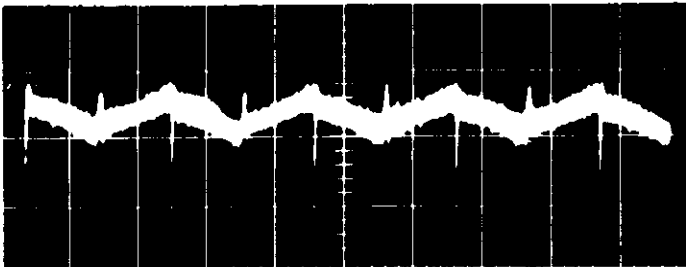

FIGURE 5. Correct Waveform at Grid of Tube V102 (Pin 4). Vertical sensitivity is 1 millivolt/cm; horizontal sweep is 5 milliseconds/cm.
d. Figures 5 through 13 show the wave forms found at various points within a properly functioning Milliohmmeter. Check these points in the order in which they appear in the figures. Set the Model 502A Power Switch to NORMAL, the Range Switch to CAL, and the OPERATE-ZERO Switch to OPERATE.